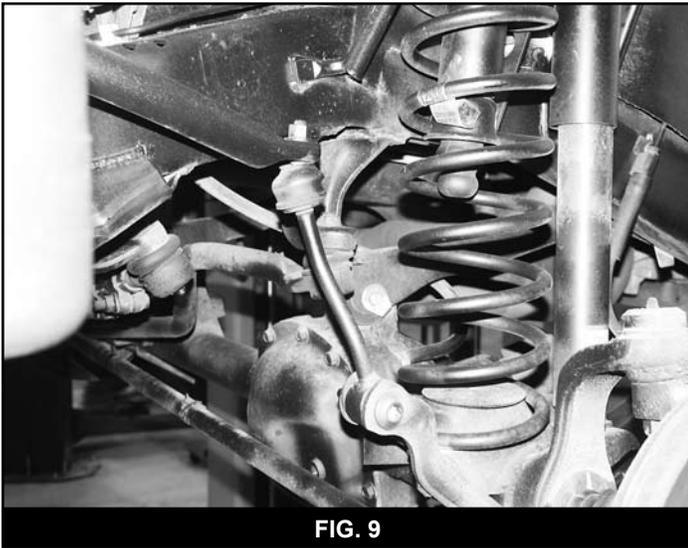

FIG. 9
26. Disconnect the sway bar end links from the axle and sway bar (Fig 9). The link is fit into the sway bar with a taper that must be released. Use a pickle fork to remove the link from the sway bar. On some models the end link bolt has a serrated shank that is pressed into the mount. The bolt will need to be pressed out.